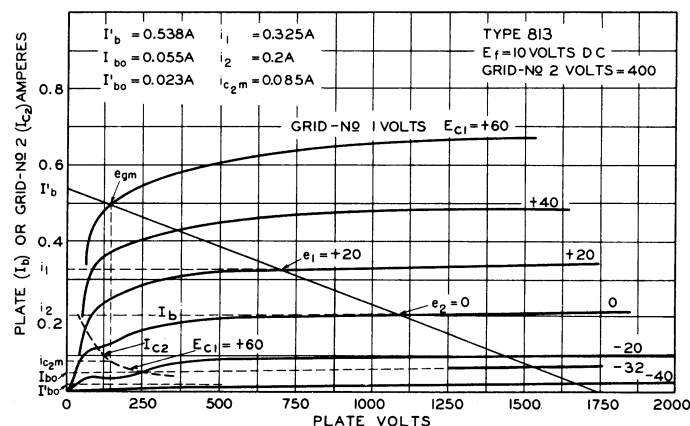

Figure 2. Average plate characteristics of the RCA-813.
The load line can now be drawn on the curve of "Average Plate Characteristics" shown in Fig. 2 after  $I'_b$  is obtained by means of equation (9) as follows